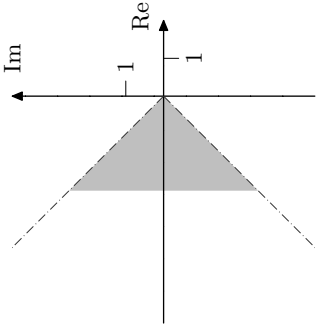

Figure 3.1c
- Assume that we use proportional control, that is,  $F(s) = K$ . How large gain,  $K$ , can we select if we want all poles of the closed loop system to be in the area shown in Figure 3.1c?
grey area in Figure 3.1c. Poles in this region corresponds to an overshoot of less than 5% (the overshoot may also be affected by the zeros).